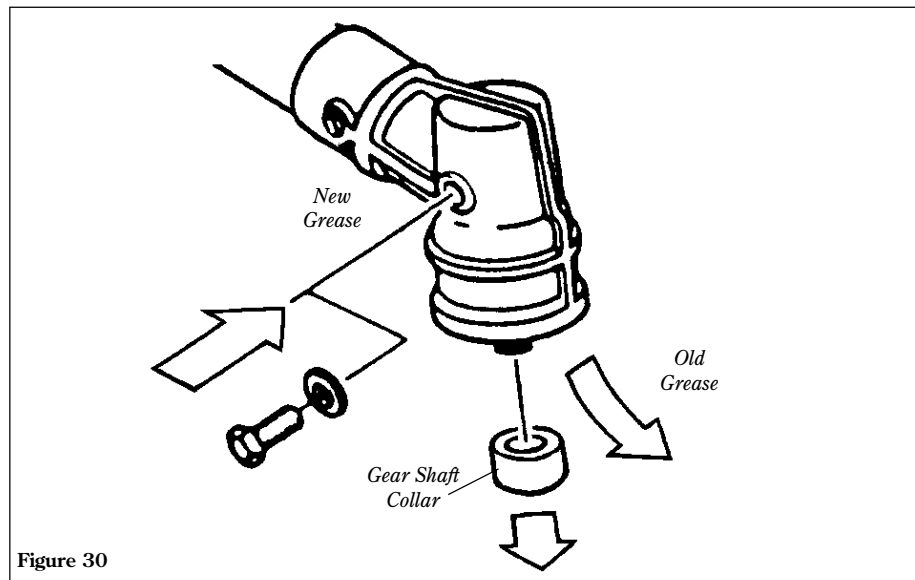

Figure 30
- Remove the cutting attachment, cutting attachment holder and gear shaft collar. Remove the filler plug from the side of the gearcase and press new grease into the gearcase until old grease is pushed out. Use only lithium-base grease such as Shindaiwa Gear Case Lubricant or equivalent. See Figure 30.